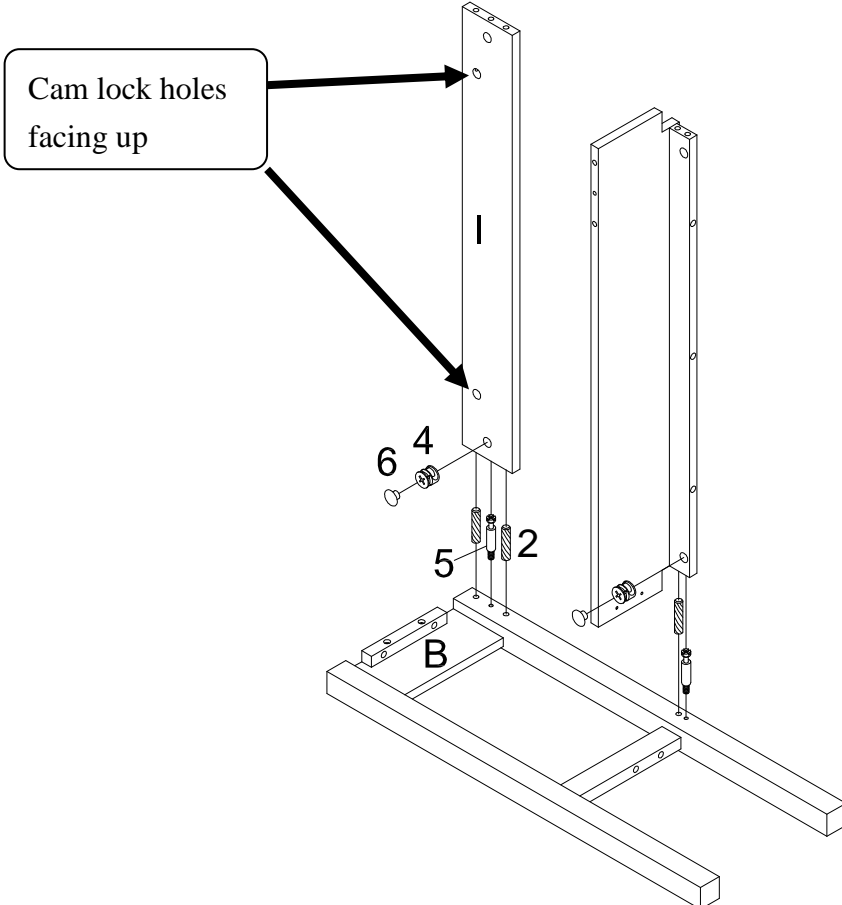

Figure 8
Insert cam locks (4) into holes on assembled unit from figure 8. Screw cam bolts (5) into holes on back leg (J).
Attach back leg (J) to assembled unit from figure 8 by inserting wood dowels (2) and cam bolts (5) into corresponding holes until assembled unit from figure 8 and back leg (J) meet.